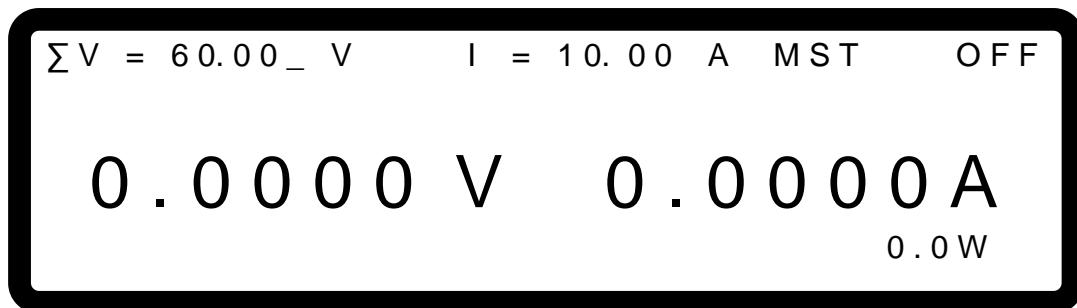

Figure 3-48
MAIN PAGE is used to set voltage (V) and current (I). The difference between single unit and series operation is that the voltage setting will increase according to the number of units connected in series. The voltage setting is indicated by ΣV for easy identification. When set to MASTER, MST will appear in the window's upper right corner as shown in Figure 3-48 below.